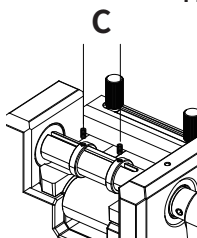

Fig.7
- 3.As shown in Fig. 7, use O to loosen the Positioning Collar Set Screw on the collar.